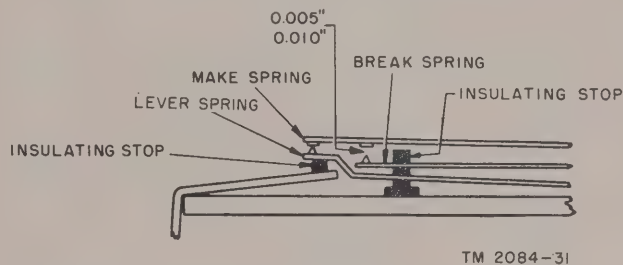

Figure 29. Make-before-break spring, operated position.
3. *Make-before-break assembly (fig. 29).*